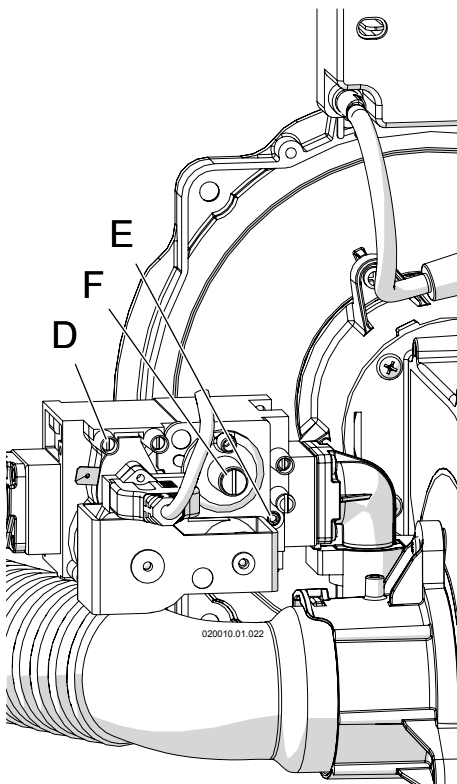

Figure 14-1 - Gas valve
- 3.- Turn the screw in pressure port "D" shown in Figure 14-1 three turns counterclockwise;
- 4.- Connect a manometer with graduations of at least 0.1 in.W.C. (0.25 mbar) to the inlet gas port "D" shown in Figure 14-1 (on unit model 399 to 1000, choose the pressure port "D" from any gas valve present);
- 3.- Turn the screw in pressure connection "D" in Figure 14-1, clockwise until snug;
- 4.- Check pressure port "D" (Figure 14-1) for any gas leaks;
the high fire range given in Figure 13-7, making sure to use the range for the gas type in use. If the CO2 reading is outside the specified range, it must be adjusted operating on the "E" screw of Figure 14-1. Use a 2.5mm Allen Wrench to turn the screw (clockwise to reduce the CO2 level, counter-clockwise to increase the CO2 level) in small increments and wait for the CO2 to stabilize to prevent overshooting the desired value;
- e. Compare the CO2 reading with the high fire range given in Figure 13-7, making sure to use the range for the gas type in use. If the CO2 reading is outside the specified range, it must be adjusted operating on the "E" screw of Figure 14-1 of the gas valve closer to the burner unit in fire. Use a 2.5mm Allen Wrench to turn the screw (clockwise to reduce the CO2 level, counter-clockwise to increase the CO2 level) in small increments and wait for the CO2 to stabilize to prevent overshooting the desired value;
- f. When CO2 level match the value of Figure 13-7, seal screw "E" (Figure 14-1) with red paint or nail polish to discourage tampering;